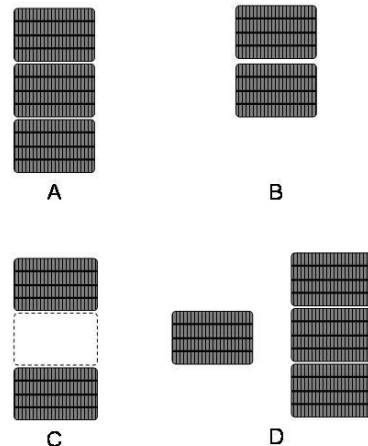

FIG. 3.1
The PhiBer® Bale Accumulator allows the operator to select among four (4) bale ejection modes (FIG. 3.1):